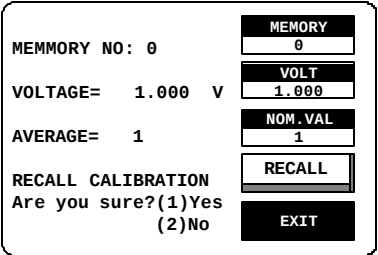

Figure 7-4
- Press compound Key 1 to select the “Yes” to start recall calibration. ( Figure 7-4 )
- Press compound Key 2 to select the “No” to stop recall calibration. (Figure 7-4 )